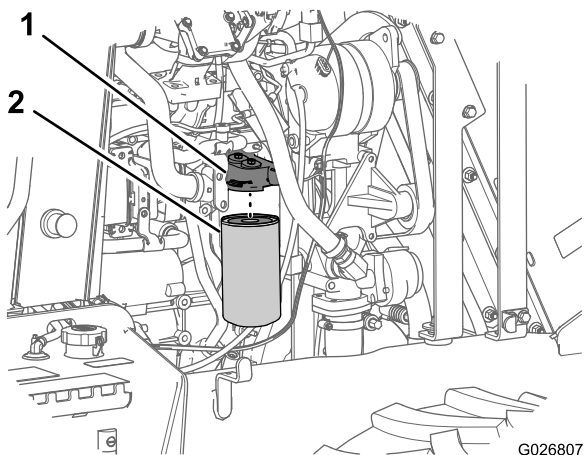

Figure 71
2. Place a small drain pan under the oil filter (Figure 71).
3. Rotate the oil filter to the left and remove the oil filter (Figure 71).
7. Align the new oil filter to the oil-filter head and rotate the filter to the right until the seal of the oil filter contacts the oil-filter head (Figure 71).
8. Hand tighten the oil filter an additional 3/4 to 1 full turn (Figure 71).